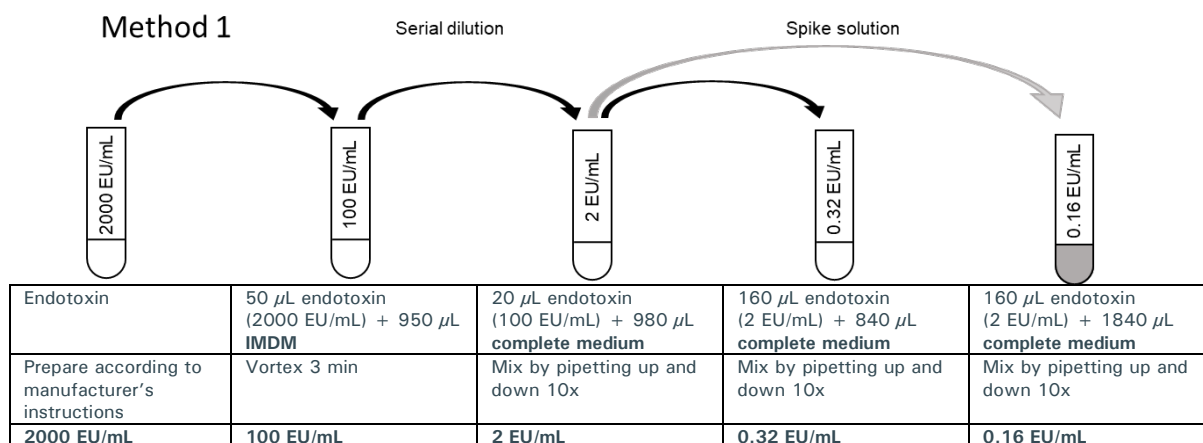

Figure 2: Schematic overview of endotoxin dilutions for Method 1
1. Reconstitute the endotoxin standard to 2000 Endotoxin Unit (EU)/mL following the manufacturer's instructions (see Figure 2).
2. Add 950 μL **IMDM** (WITHOUT MAT CULTURE MEDIUM SUPPLEMENT) to a sterile, non-pyrogenic borosilicate glass tube and to this add 50 μL of 2000 EU/mL endotoxin to reach a concentration of 100 EU/mL (see Figure 2). Vortex thoroughly for 3 minutes.
3. Add 980 μL **complete medium** to a sterile, non-pyrogenic borosilicate glass tube and to this add 20 μL of 100 EU/mL endotoxin to reach a final concentration of 2 EU/mL (see Figure 2). Mix thoroughly by pipetting up and down for 10 times, with a volume of at least 500 μL .
4. Add 840 μL **complete medium** to a sterile, non-pyrogenic borosilicate glass tube and to this add 160 μL of 2 EU/mL endotoxin to reach a final concentration of 0.32 EU/mL (see Figure 2). Mix thoroughly by pipetting up and down for 10 times, with a volume of at least 500 μL .
7. Add 1840 μ L **complete medium** to a sterile, non-pyrogenic borosilicate glass tube and to this add 160 μ L of 2 EU/mL endotoxin to reach a final concentration of 0.16 EU/mL (see Figure 2). Mix thoroughly by pipetting up and down for 10 times, with a volume of at least 1 mL. Do not vortex and prevent the formation of air bubbles.